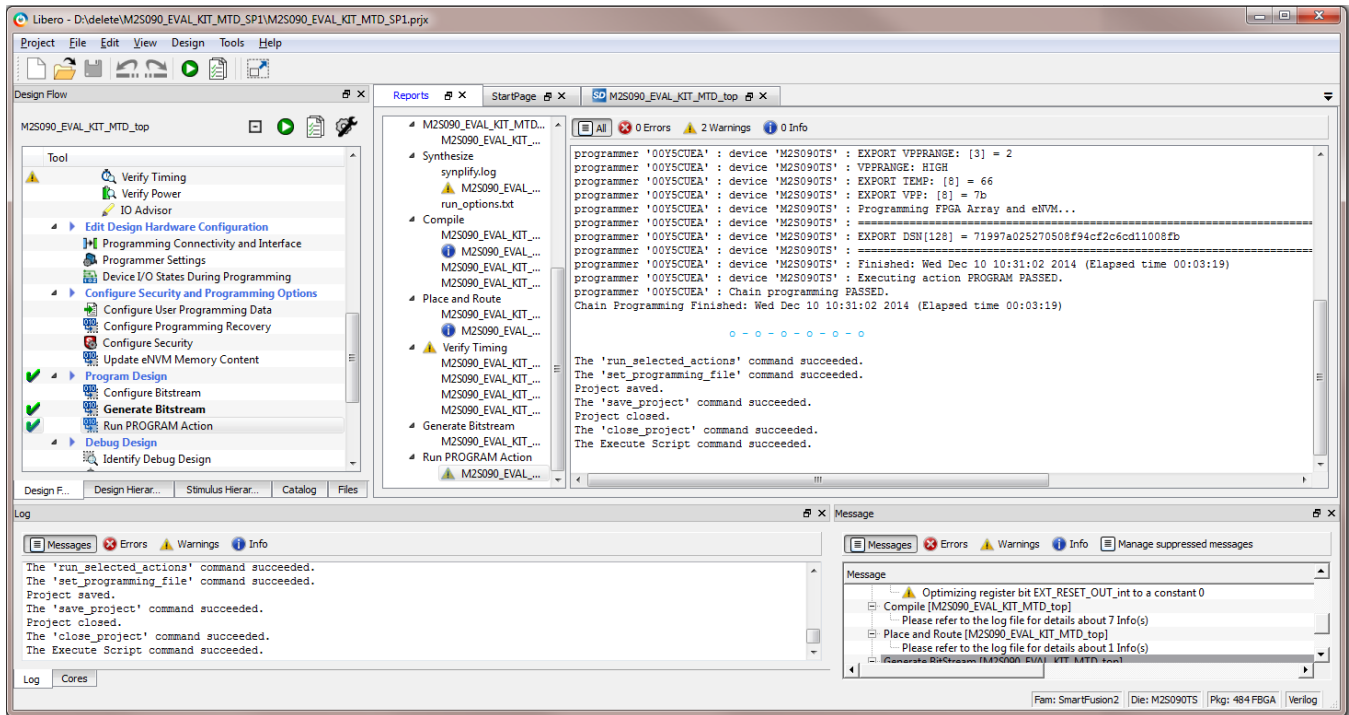

Figure 29 Successful Run Program Action
12. Once the device is programmed, LEDs at E1 and F4 will glow and window is displayed as shown in **Figure 29**.